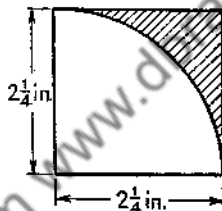

Fig. 10
(4) Calculate the area of the shaded portion in fig. 10.